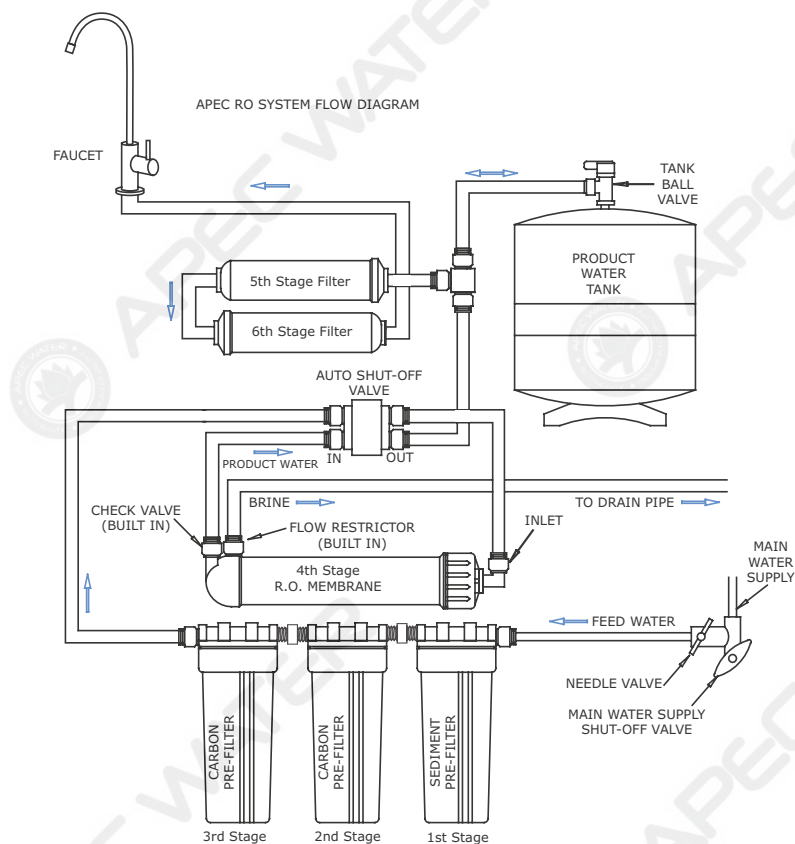

Fig. 15
**Fig. 15** below shows how water flows through the RO system from Feed point to Output point.